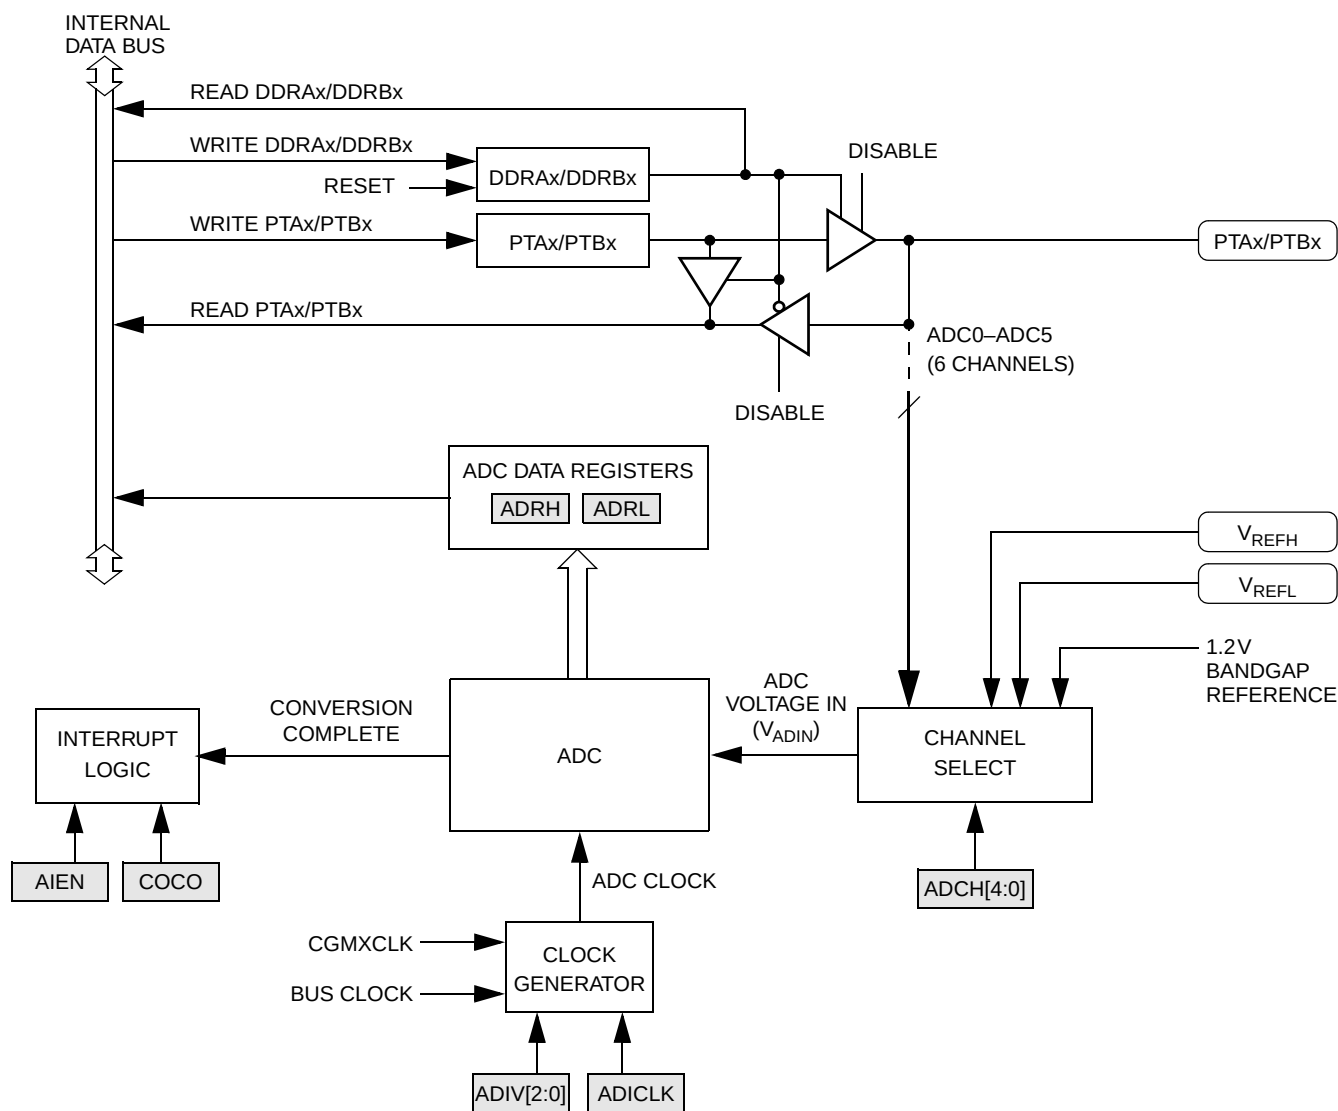

**Figure 15-2. ADC Block Diagram**
**Figure 15-2** shows the structure of the ADC module.